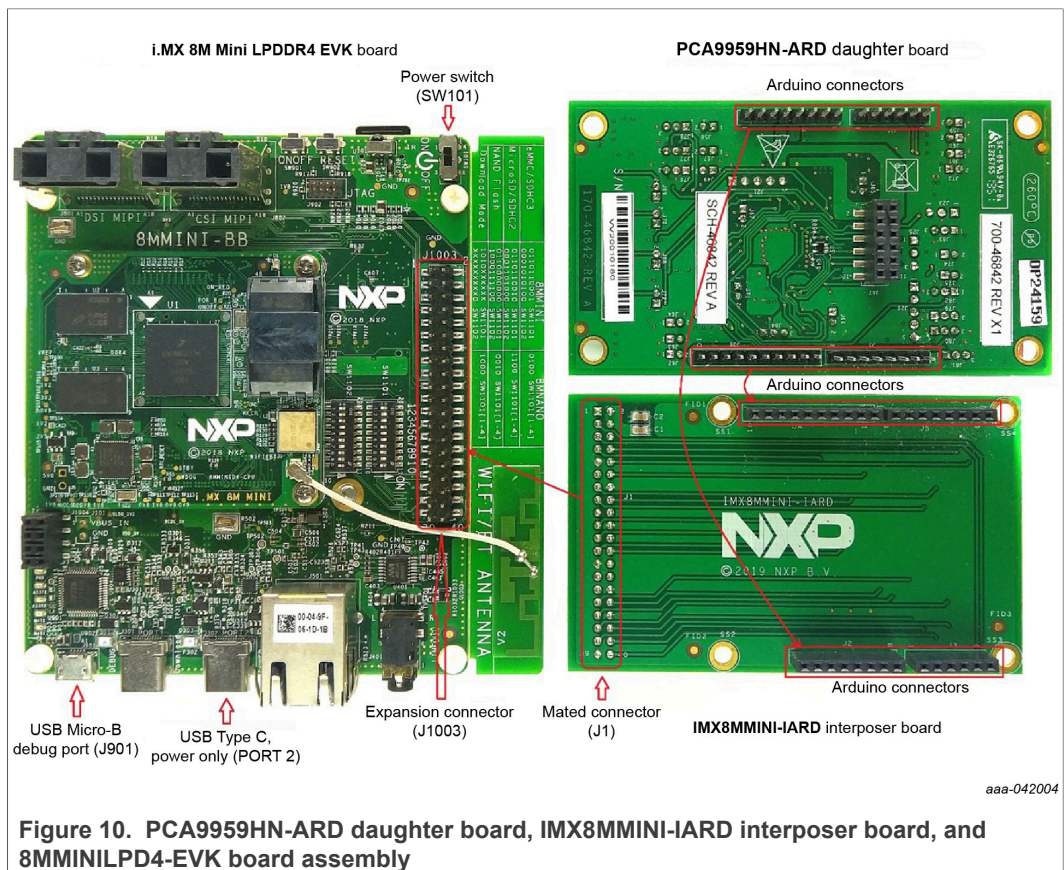
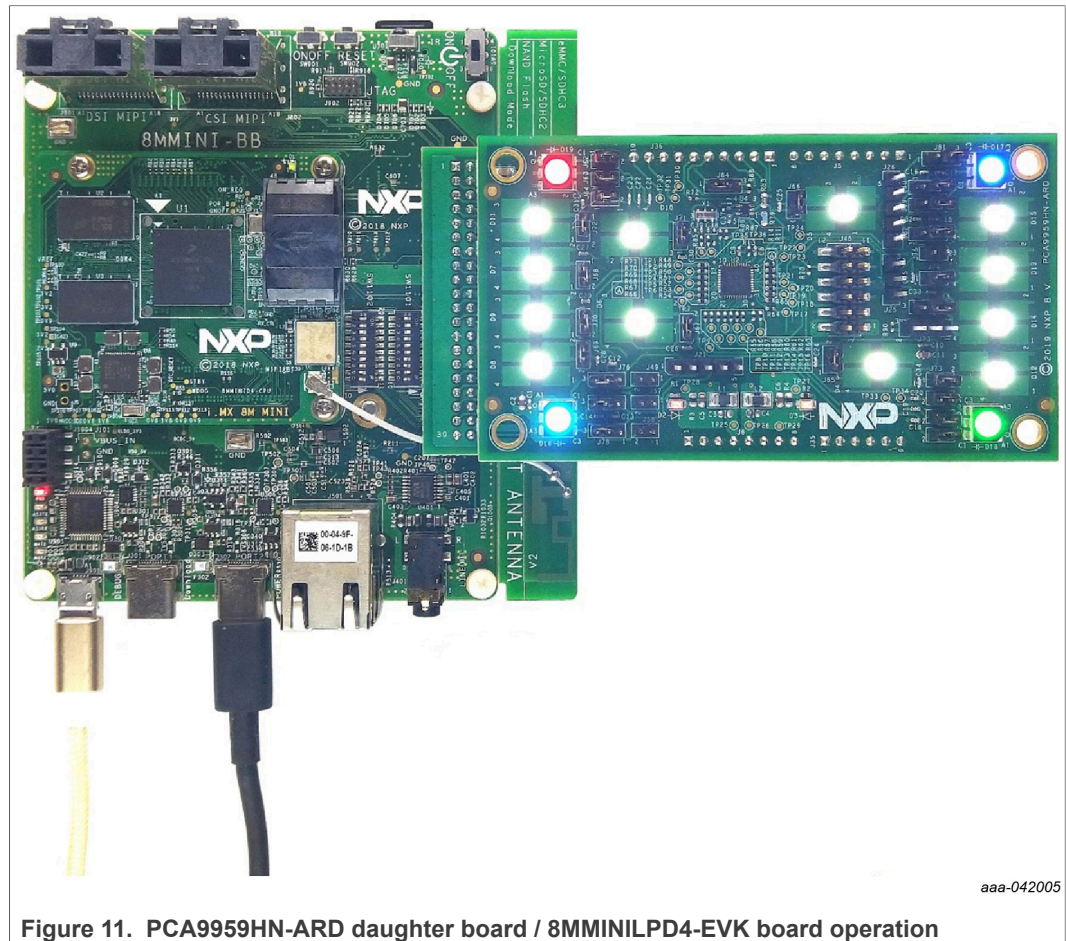

Figure 10. PCA9959HN-ARD daughter board, IMX8MMINI-IARD interposer board, and 8MMINI-LPDDR4-EVK board assembly
Figure 11. PCA9959HN-ARD daughter board / 8MMINILPD4-EVK board operation
Figure 10 shows how these three boards are connected. This configuration consists of:
To power up the EVK, an USB-C type cable connected to PORT 2 of the EVK is used. The power switch SW101 on the EVK board must be set to ON position to power up the setup. Data communication is achieved by routing a separate USB (Micro-B type) cable from a USB port on the PC to debug port (J901) on the EVK (see Figure 10 and Figure 11).
2. Attach IMX8MMINI-IARD connector J1 (located on the bottom of the board) into J1003 expansion board located on the top side of i.MX 8M Mini LPDDR4 EVK (see Figure 10).